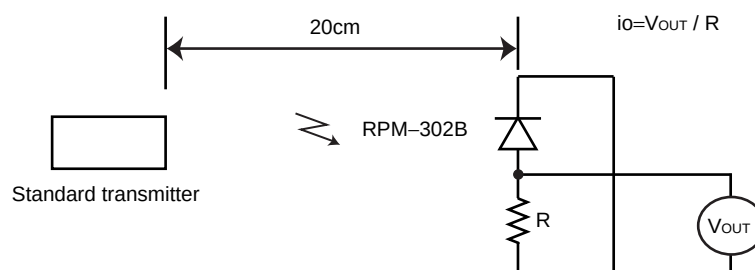

Fig.2 Measurement of standard transmitter proof reading.
*1 The burst wave form mentioned in Fig.1 is to be transmitted from standard transmitter(Fig.2)
When standard transmitter output the signal at Fig.1 standard photodiode output become $i_0=5\mu\text{A}$ under the measurement condition Fig.2.